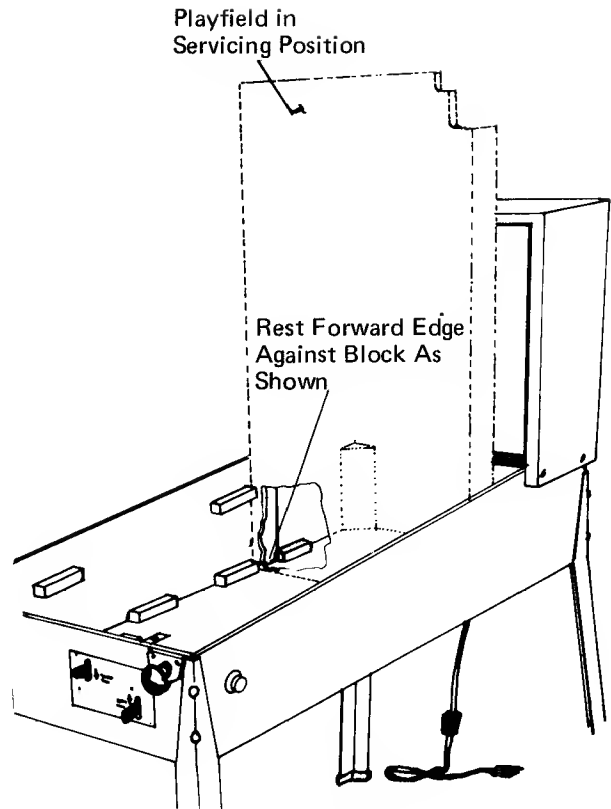

FIGURE 3
7. Tilt the playfield up to near vertical position as shown in **Figure 3**, lower to bottom of cabinet, hook forward edge of playfield behind the lower blocks. This position will support the playfield for servicing.